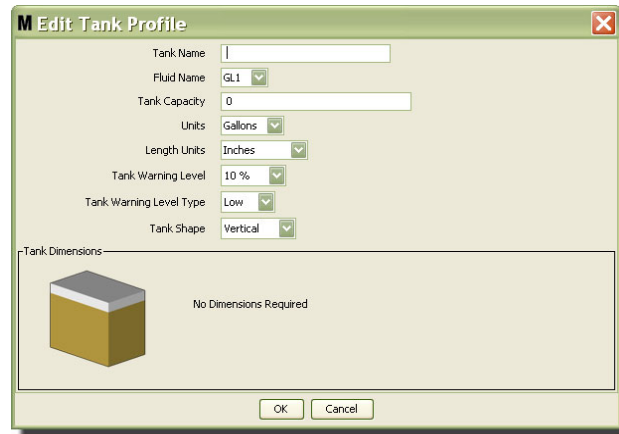

FIG. 101
3. The Edit Tank Profile screen shown in FIG. 101 displays.